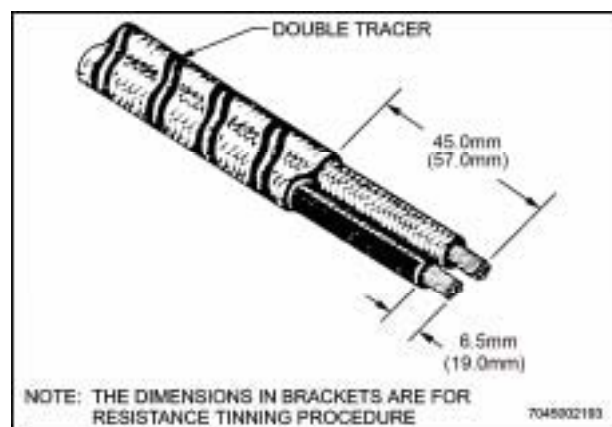
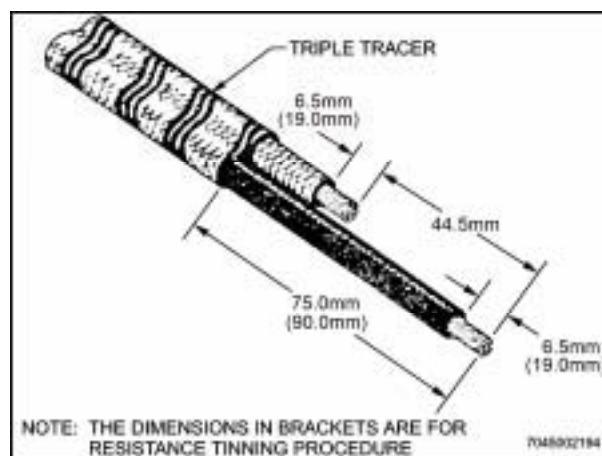
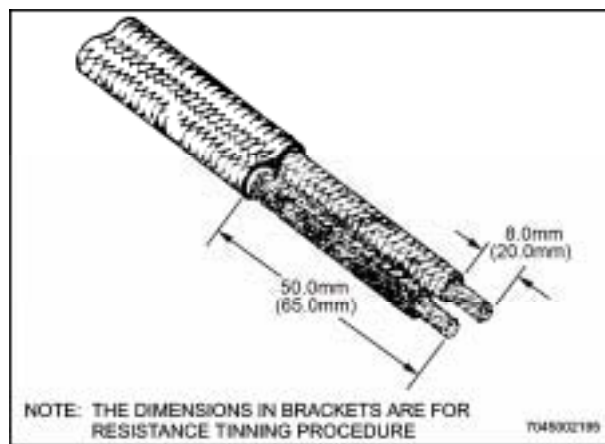
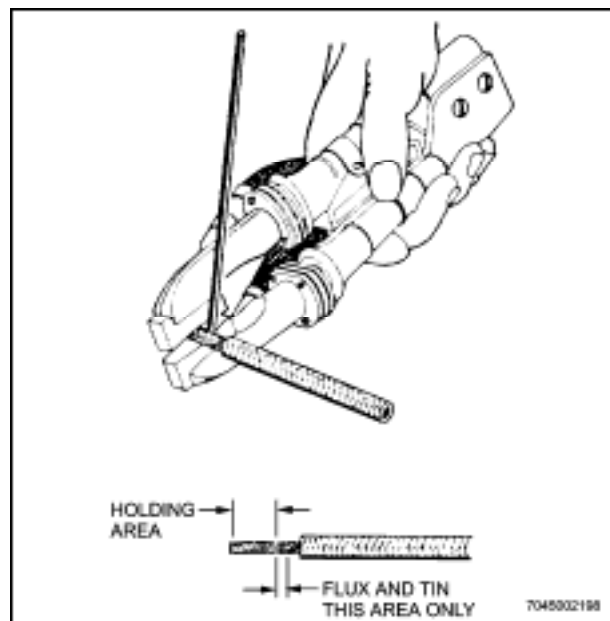

Figure 16-4 Stripping Thermocouple Wire for Terminal and for AN5537 Connector Installation
Figure 16-5 Stripping Thermocouple Wire for Splice Installation
Figure 16-6 Stripping Thermocouple Wire for MS Connector Installation
Figure 16-9 Resistance Heating to Tin Wire
11. Remove outer covering, of thermocouple wire with a knife by slitting between parallel conductors and trimming the fabric braid with scissors or diagonal pliers. The stripping dimensions for each use are shown in Figure 16-4, Figure 16-5 and Figure 16-6. Note that longer stripped lengths are required if the wires are to be resistance tinned. Use a hand stripper, as illustrated in Section 2, Figure 3-3, for removing the primary insulation from each conductor.
15. Electrical resistance heat is a good method for silver soldering thermocouple wires. Use a unit that has a capacity of 1000 watts (Figure 16-9). Wire that is to be tinned by means of electrical resistance should be stripped 12.7mm longer than wire which is to be dip-tinned or torch-tinned. The extra 12.7mm provides a holding area which is removed after tinning is complete. See Figure 16-4, Figure 16-5 and Figure 16-6 for stripping dimensions. The procedure for resistance tinning is as follows:
- a. Apply hard solder flux to area to be tinned. This is an area about 3mm long, as shown in Figure 16-9.